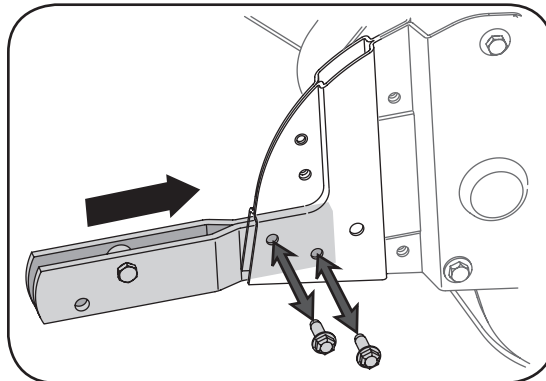

Figure 3-6: Insert depth gage bracket into frame.
2. Remove the two screws from the rear of the tiller frame as shown in Figure 3-6.
3. Insert the depth gage bracket into the frame and reinstall the two screws removed earlier. Tighten the hex bolts securely. See Figure 3-6.